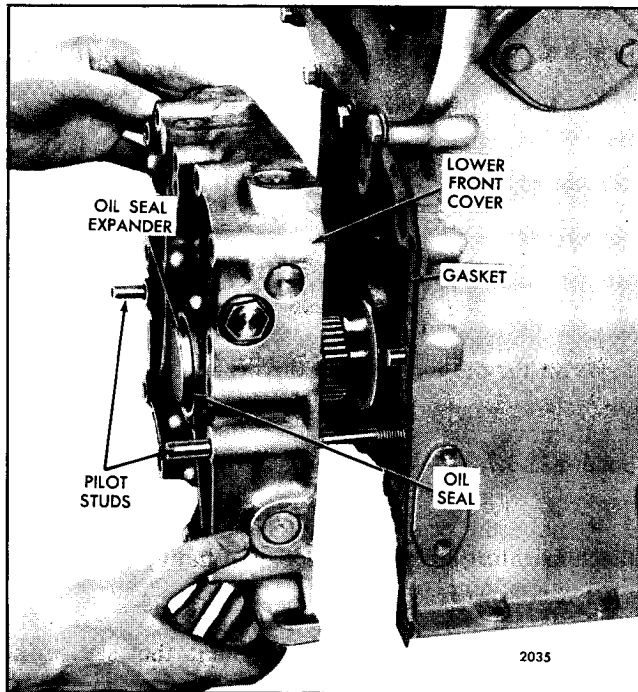

Fig. 3 - Installing Lower Engine Front Cover
8" long into two diametrically opposite bolt holes in the cylinder block to guide the cover in place (Fig. 3).
4. Apply a light coat of cup grease to the lip of the oil seal. Slide the engine front cover over the oil seal expander and pilot studs as shown in Fig. 3. Push the cover forward until the inner rotor of the oil pump contacts the pump drive gear on the crankshaft. Rotate the crankshaft slightly to align the teeth, then push the cover up against the gasket and block. Do not force the cover.